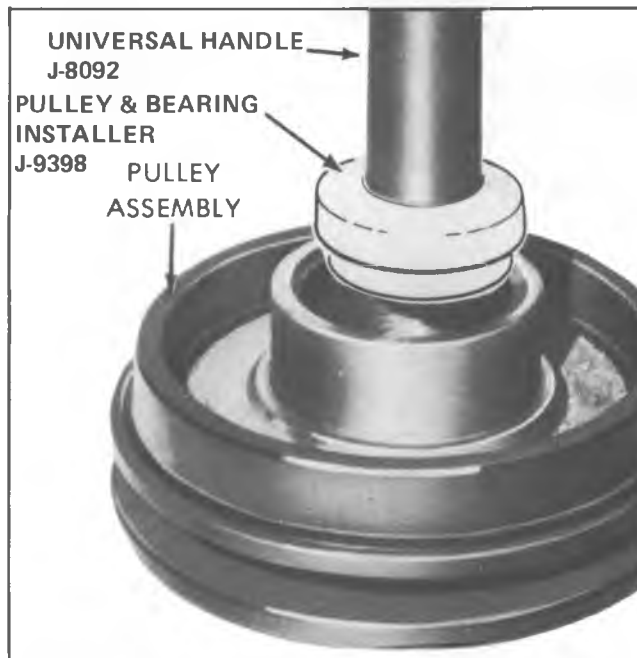

Fig. 14--Removing Bearing from Pulley Assembly
4. Place pulley and bearing assembly on inverted Support Block J-21352 and, using Pulley Bearing Remover J-9398 with Universal Handle J-8092, drive Bearing assembly out of pulley (Fig. 14).